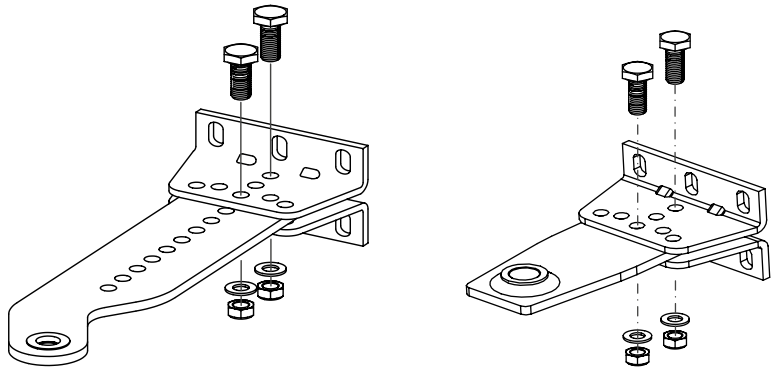

Figure 8. Assembling a rear, front fitting
- after defining the mounting dimensions, **A** and **B** and a location to attach a rear fitting to the post, select an assembly type for the rear fitting (*tab. 6, fig. 8*). When needed, cut the bracket of the rear fitting to the required size. In case the bracket is not long enough, use improvised materials to add length to the rear fitting.